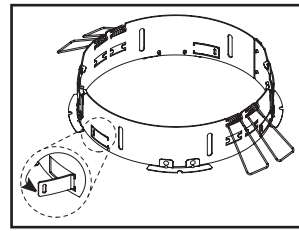

Figure 30.
- To prevent movement in the housing/ceiling opening use a flat head screw driver to pry out 4 centering tabs on Retrofit Ring Assembly (Figure 30.).